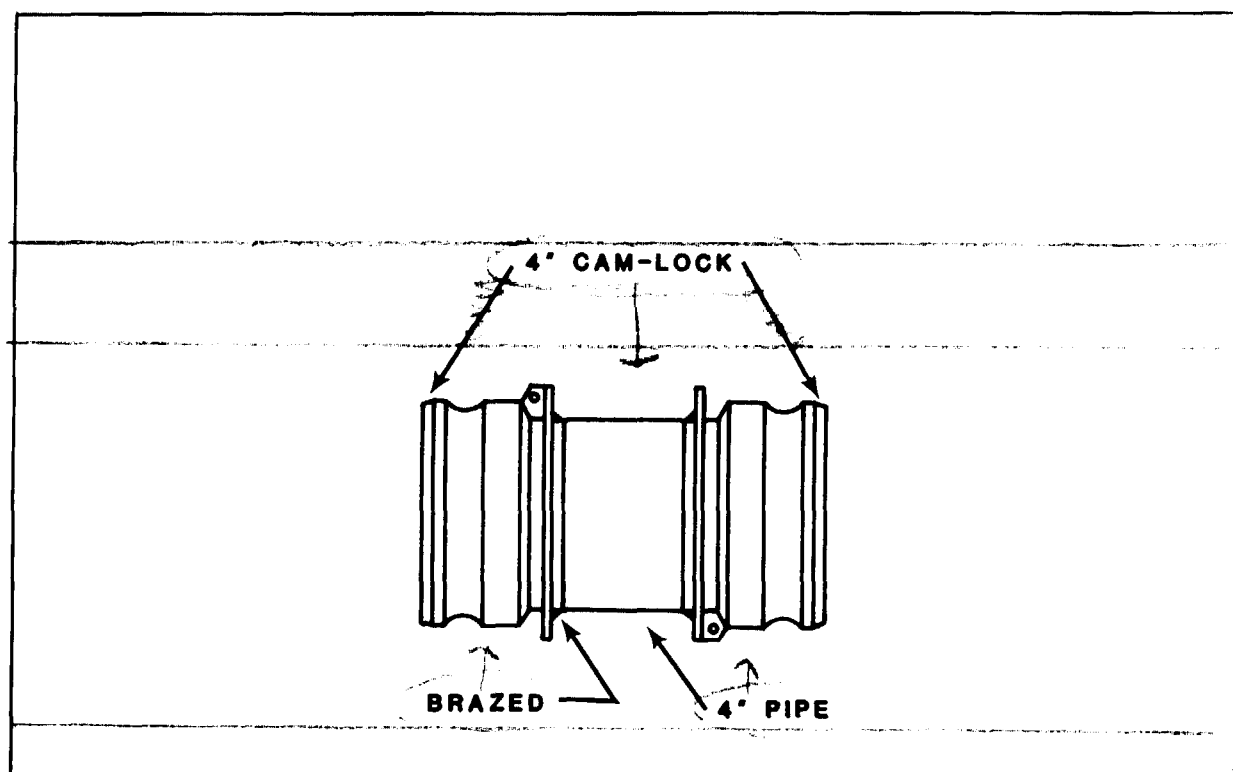

FIGURE B-2
- b) Adapter Double Male cam-lock 4" cam-lock male X 4" cam-lock male (Figure B-2)